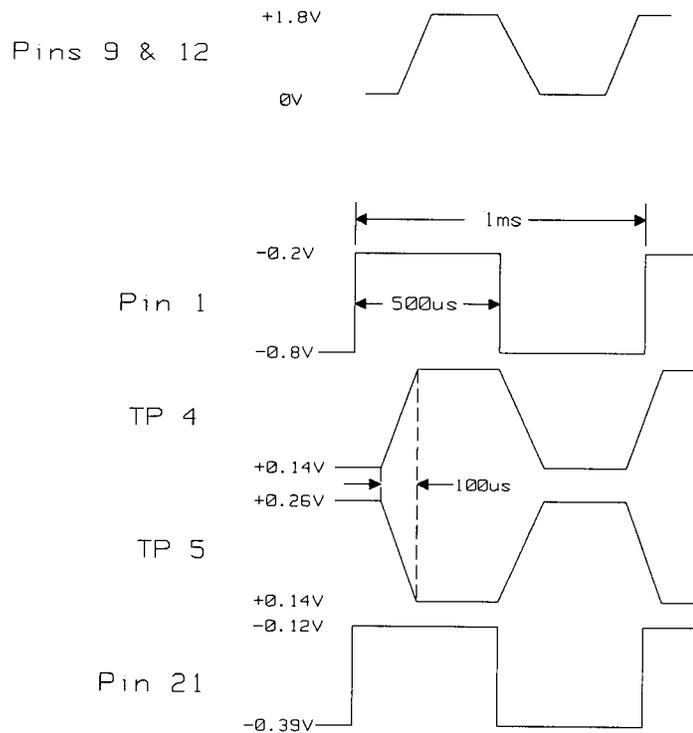

Figure 10.3-16. Slope Generator Input and Output signals
2. Check the input signal from the width generator at pin 1 of U301 against Figure 10.3-16
3. Check the ramp current input at pins 9 and 12 of U301 against Figure 10.3-16
4. Check the signals being sent to the shaper IC (waveforms at TP1, TP4 and pin 21 of U301) against Figure 10.3-16.